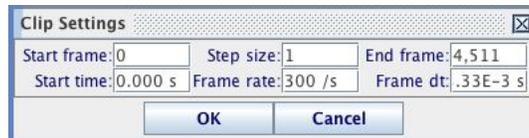

Figure 4: The Clip Settings icon.
4. In the **Clip Settings** pop-up window, enter a frame rate of 300 fps, as shown in Figure 4